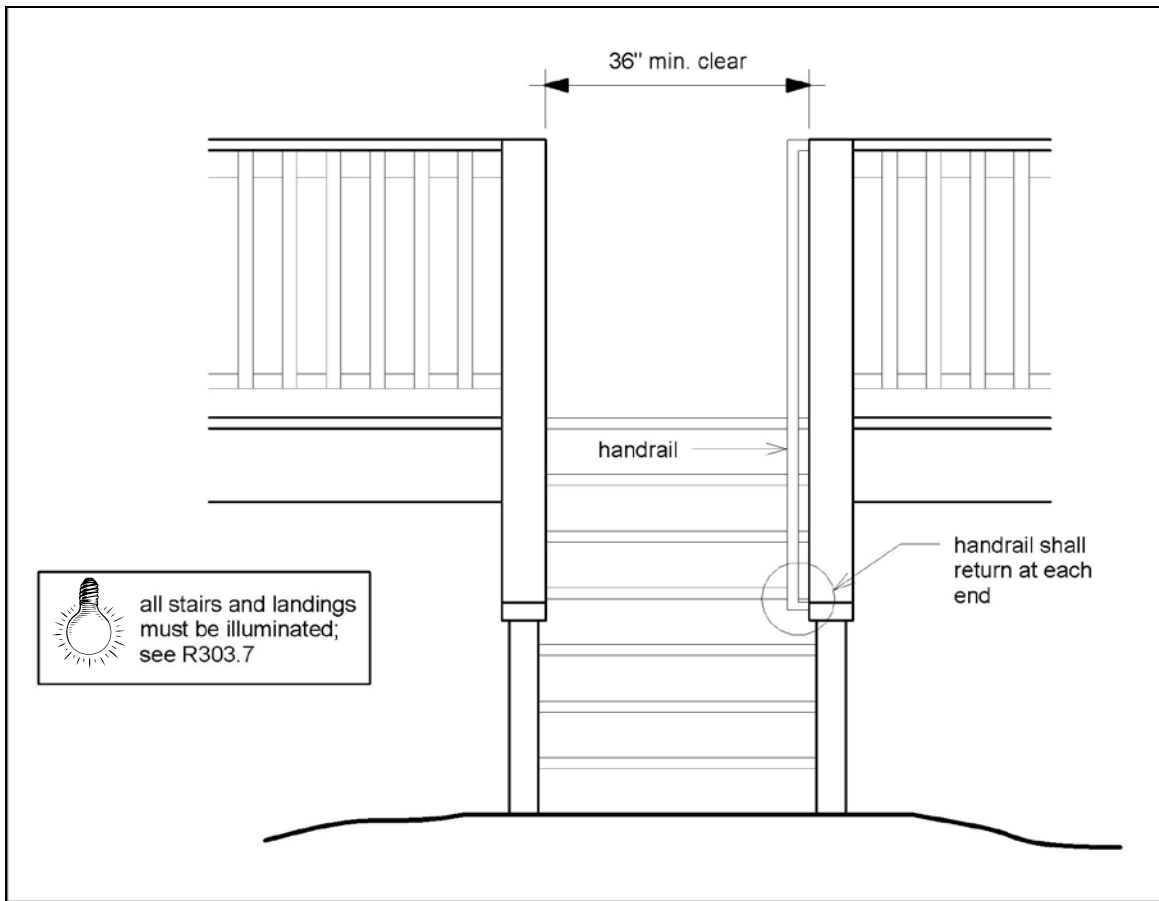

FIGURE 39: MISCELLANEOUS STAIR REQUIREMENTS
- Handrails shall run continuously from a point directly over the lowest riser to a point directly over the highest riser and shall return to the guard at each end; see FIGURE 39.